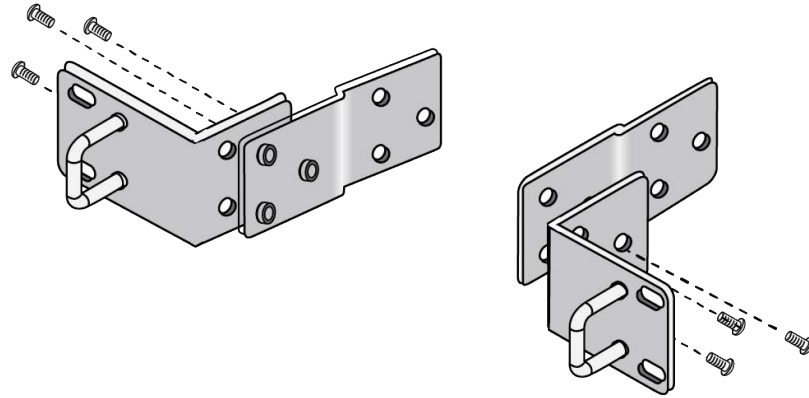

Figure 37. Attaching the Extenders to the RKMT-J13 Brackets
4. If you want to recess the front of the switch in the equipment rack 50mm (2 in.), attach the extenders to the brackets with six 4x8mm screws included in the kit. Refer to Figure 37 on page 74.